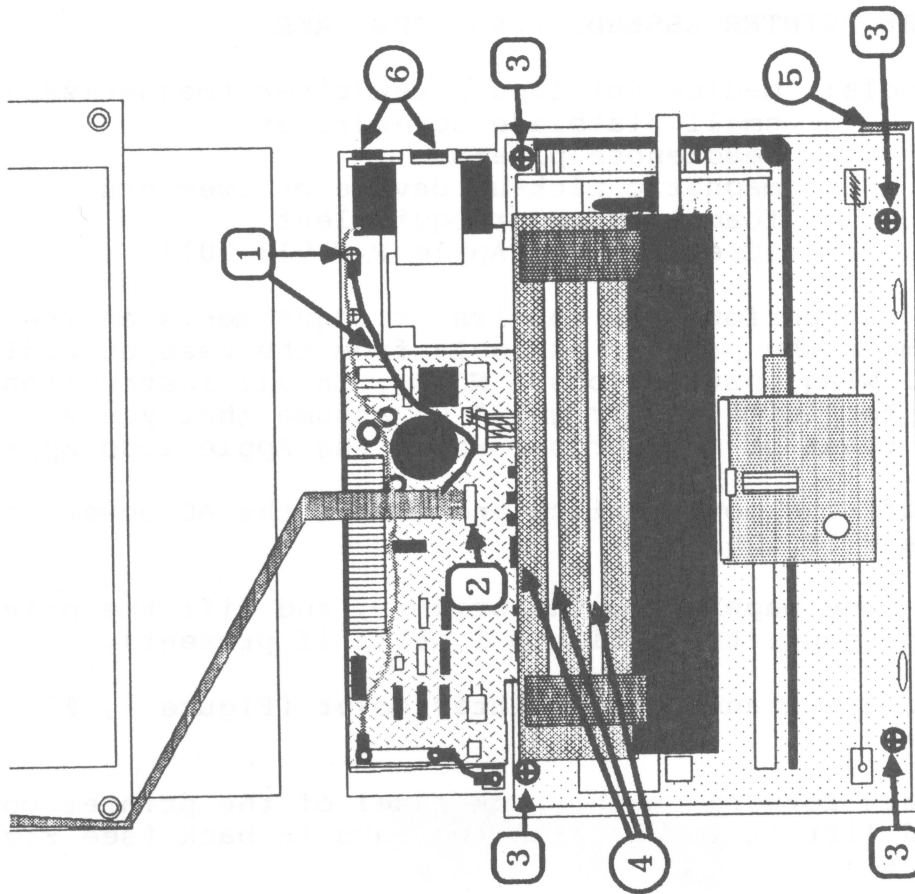

Figure 4
- f) Locate the ground wire that connects the ribbon cable to the rear of the chassis (Figure 4, #1). Free it from the chassis by removing the screw. **IMPORTANT:** Keep this screw with the ground wire. It is longer than the other chassis screws.
- g) Disconnect the ribbon cable from the logic board by **pulling on the connector, not on the cable.** (See Figure 4, #2.)
7. Remove the four baseplate screws (Figure 4, #3).
- a) Push the little grey cable-clamp out of the way (Figure 4, #5).
- b) Grasp the assembly by the two metal rods and the back plate (Figure 4, #4) and lift it up, right side first, out of the case. (You may have to free the AC fuse holder and the power cord socket (Figure 4, #6) by prying outward on the case with a screwdriver or fingers as you begin lifting.)